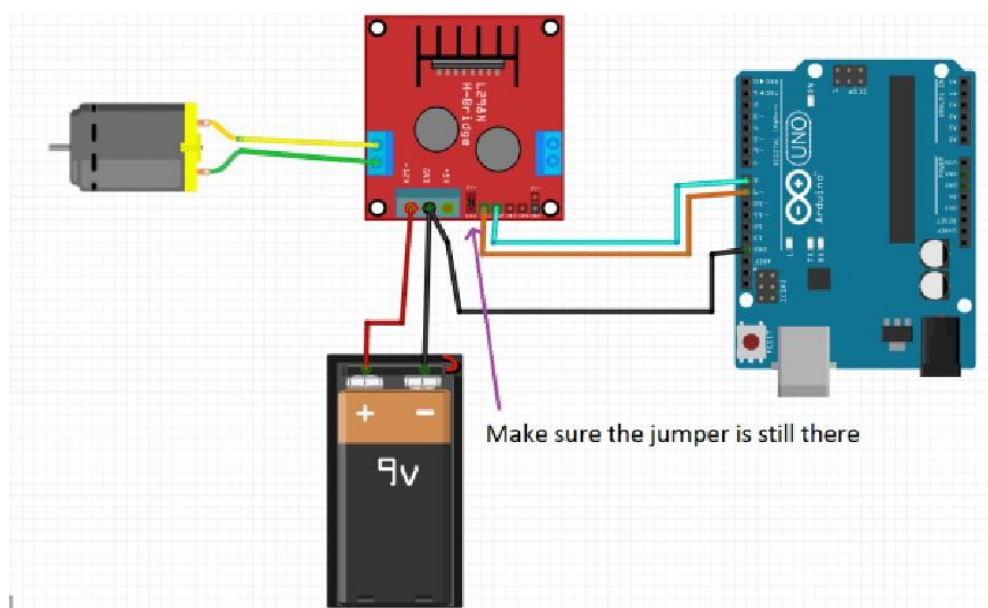

Figure-4: Setup for no speed control and change of direction
3. When speed control is not required it was made sure that jumper was shorted for the EnA and EnB pins of the L298 driver as shown in figure-4.